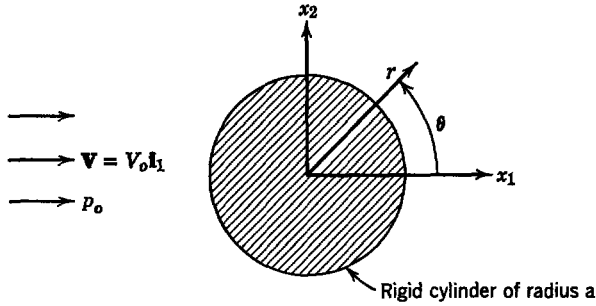

Fig. 12P.5
12.6. An inviscid incompressible fluid flows around a rigid sphere of radius a , as shown in Fig. 12P.6. At $x_1 = \pm \infty$ the fluid velocity becomes $\mathbf{v} = V_0 \mathbf{i}_1$.